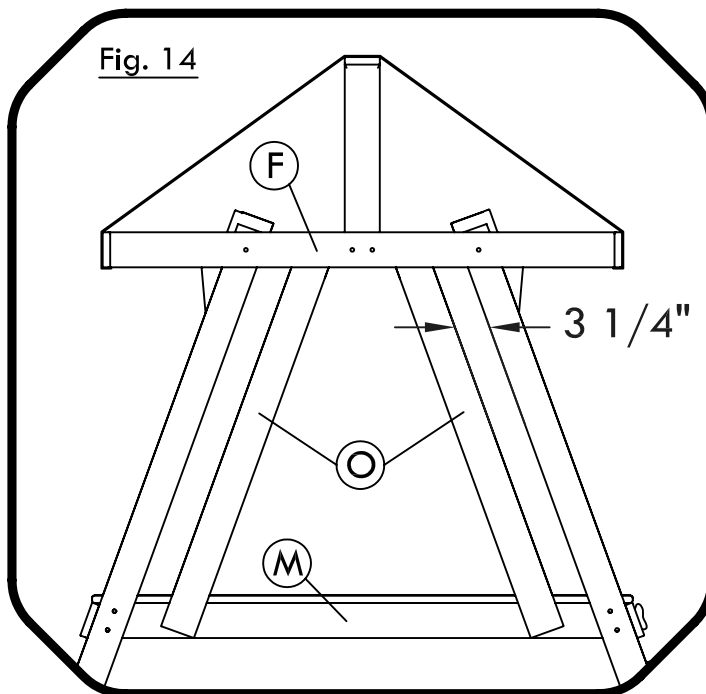

Fig. 15 INSIDE VIEW
Step 3: Drape Tarp over Tarp Support 'K' and Tarp End Caps 'J'. Attach one side of tarp to inside of one Tarp End Cap 'J' with (3) 3/4" tapping screws. Pull other side of Tarp tight and attach to the inside of other Tarp End Cap 'J' with (3) 3/4" tapping screws. (see Fig 15 & 16)